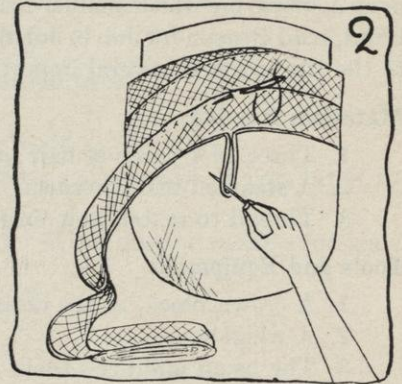

FIG. 2.
- d. From now on do not pin the hair braid, but continue to sew the second row as above, just holding and lapping the finished edge over the corded edge as you go (see Figure 2).
- e. Draw the cord in the hair braid if you find it does not fit close to the crown (see Figure 2).